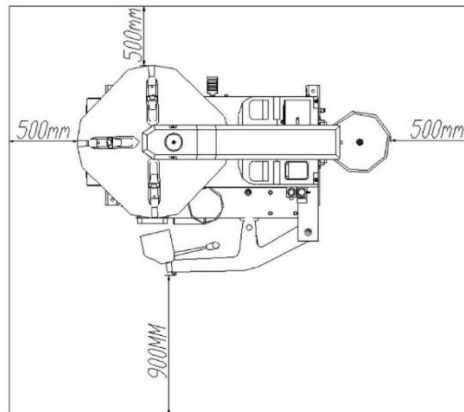

Fig. 3-1
- The space around the machine must respect the minimum dimensions indicated (see Fig. 3-1) in order to allow the correct operation of all parts of the machine without restriction.